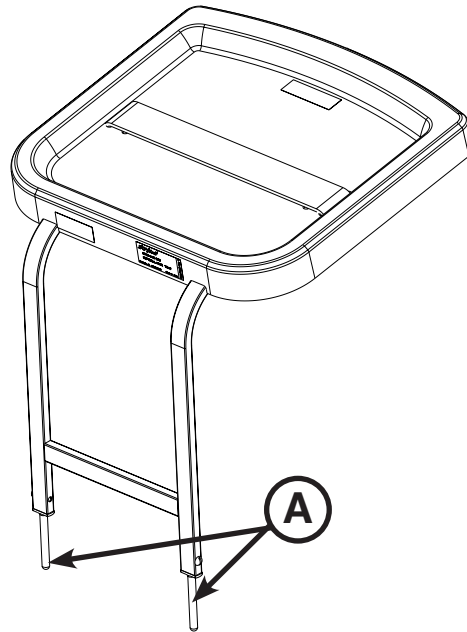

Figure 11.1: Defibrillator Tray
To install the defibrillator tray, insert the pins (A) on the defibrillator tray into the footboard sockets at the foot end of the stretcher as shown in Figure 11.1. Use the strap to secure the equipment to the tray.